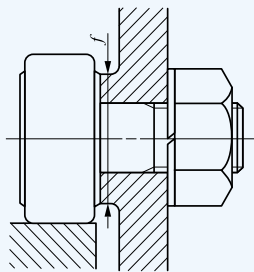

Fig. 1 Seating surface
① Make the center axis of the mounting hole perpendicular to the moving direction of the Cam Follower and match the side shoulder accurately with the seating surface indicated by dimension f in the table of dimensions. (See Fig. 1.) Then, fix the Cam Follower with the nut. Do not hit the flange head of the Cam Follower directly with a hammer, etc. This may lead to a bearing failure such as irregular rotation or cracking.